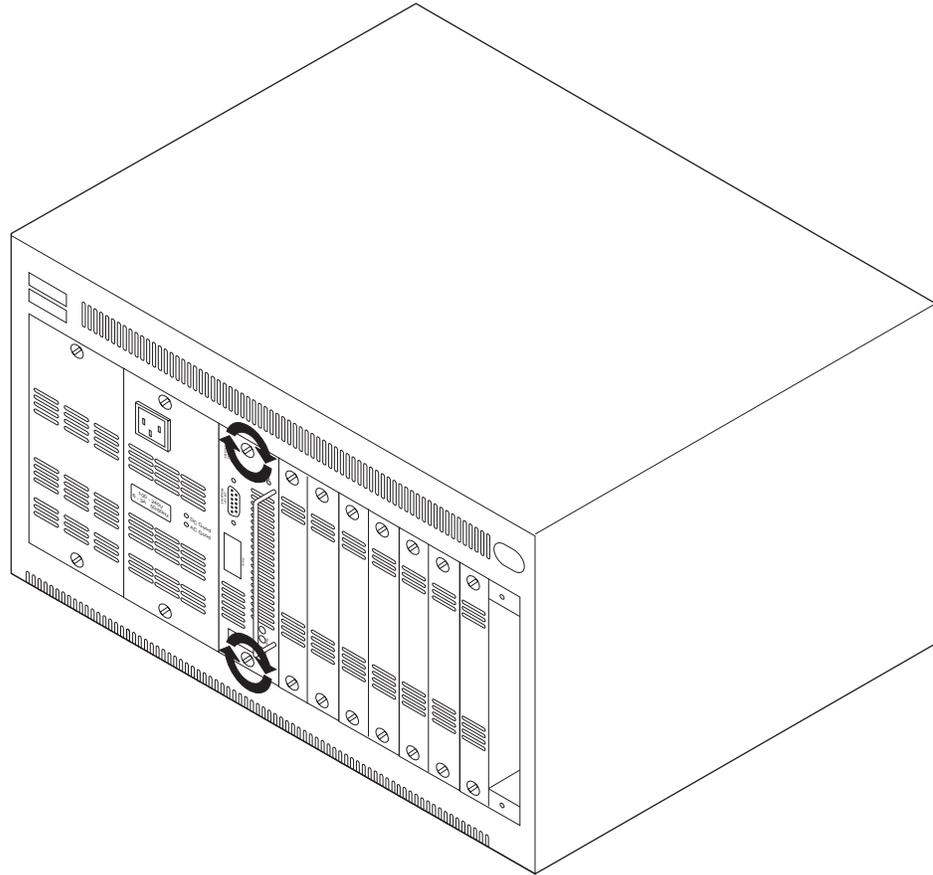

Figure 2-3. Securing the Token-Ring Processor Card
- Step 2.** Secure the card with the two thumbscrews attached to it. See Figure 2-3.